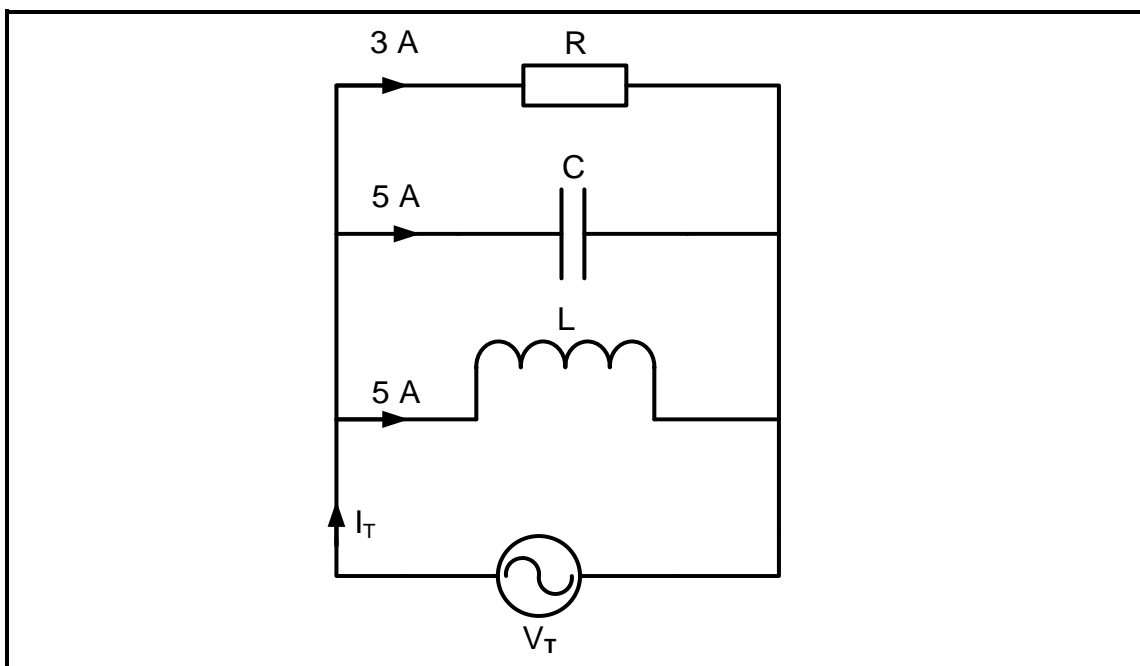

FIGURE 3.4: CIRCUIT DIAGRAM
3.4 Refer to FIGURE 3.4 below and answer the questions that follow.
3.4.3 Draw a fully labelled phasor diagram for the circuit in FIGURE 3.4 above in the ANSWER BOOK. (4)